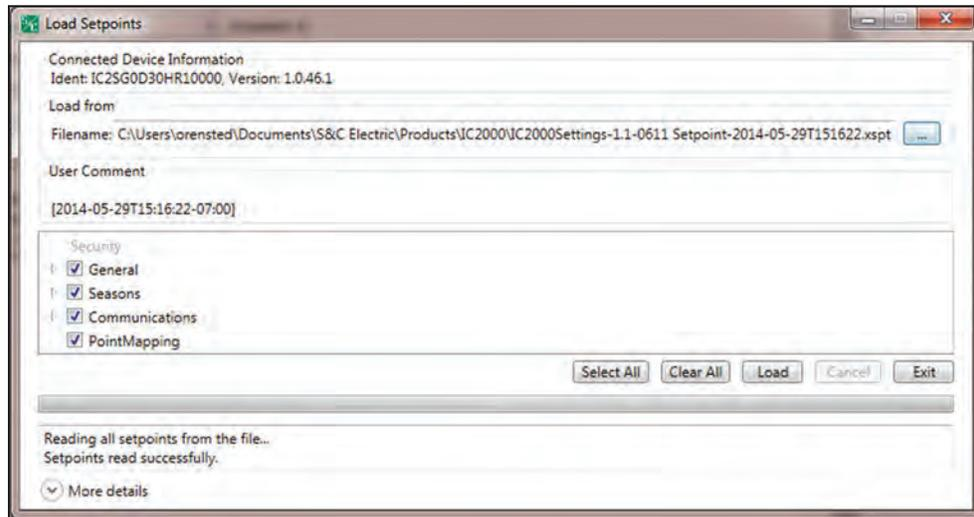

Figure 44. Load Setpoints dialog box.
- STEP 5.** Use the converted settings file to configure an IntelliCap 2000 control. To upgrade an IntelliCap 2000 control with a converted settings file, connect to the device with IntelliLink software, and select the **Load Setpoints** option. Choose the converted file to load, and select which group of settings to load. See Figure 44. Click on the **Load** button.